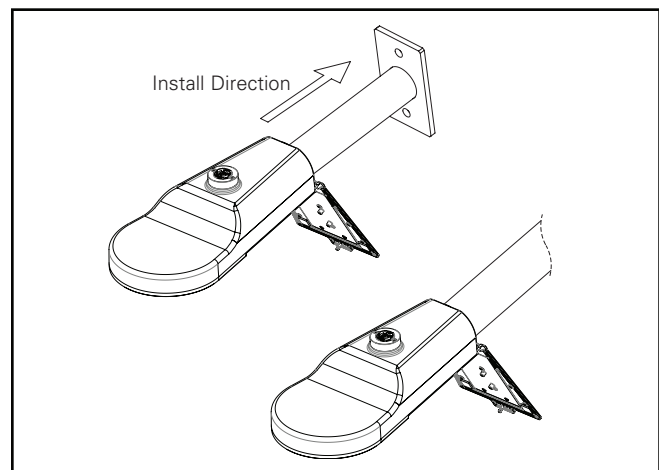

Figure 4.
5. Lift the housing into place and position end of mounting arm onto leveling steps so that housing is level. (Figure 4)